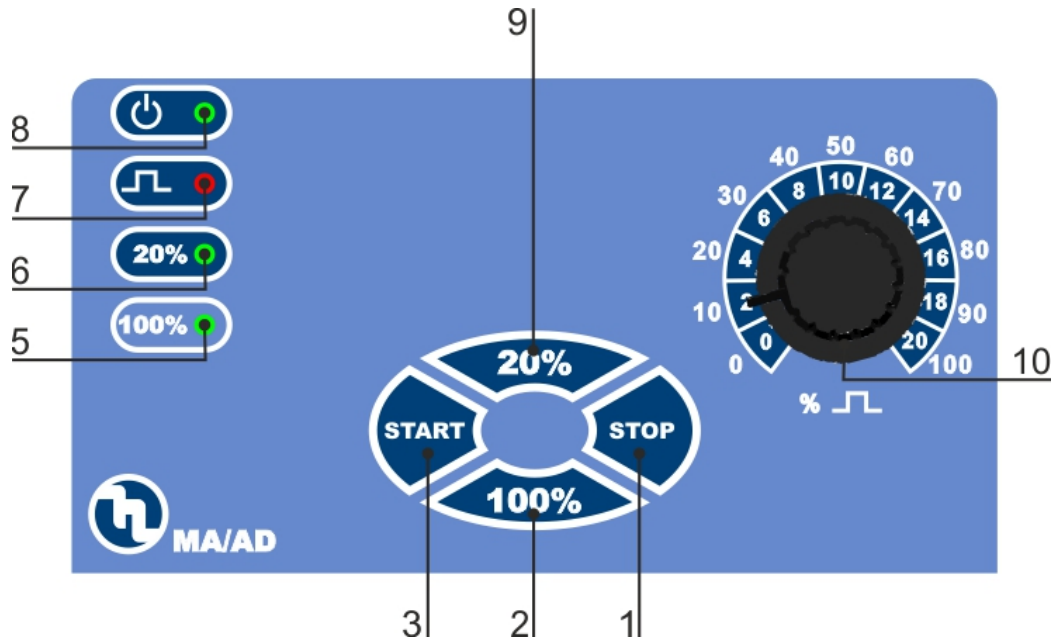

Fig. 12
6.1 - PUMP CONTROLS (Fig.12)
As the system is quite robust there are no apparent mechanical problems. Occasionally there might be a loss of liquid from the nipple because the tube nut has loosened, or more simply the discharge tubing-has broken. Very rarely there may be losses caused by the breakage of the membrane, or by the membrane seals in which case they have to be replaced by disassembling the four screws of the pump head (fig. 12), when re-mounting the pump head ensure that the screws are replaced properly, along with "O" ring. After repair, the metering pump will need to be cleaned of additive residues which can damage the pump casing.
① - THE METERING PUMP GIVES PULSES BUT THE ADDITIVE IS NOT INJECTED
- a. *Dismount the suction and discharge valves, clean them and replace, see position (fig. 12). Should the valves be swollen, check valves material against our chemical resistance compatibility chart and fit correct valves. Standard valves are Viton. Upon request Silicon, EPDM (Dutral), Nitril and valves, ball check valve, K valve can be supplied.*